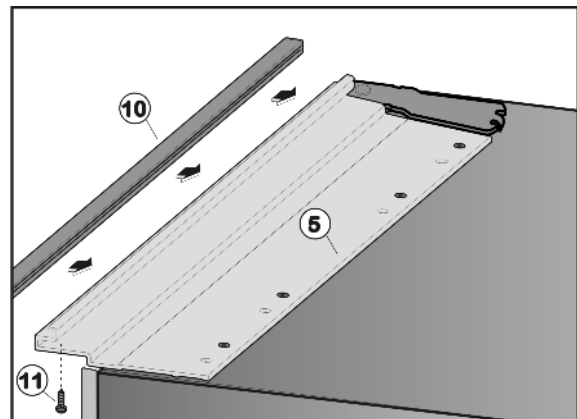

Fig. 32
- Position end strip Fig. 32 (10) over the installation contour Fig. 32 (5) and align it such that the holes in ventilation grille and installation contour are above each other.
- Screw end strip Fig. 32 (10) to installation contour Fig. 32 (5) from below using three screws Fig. 32 (11).